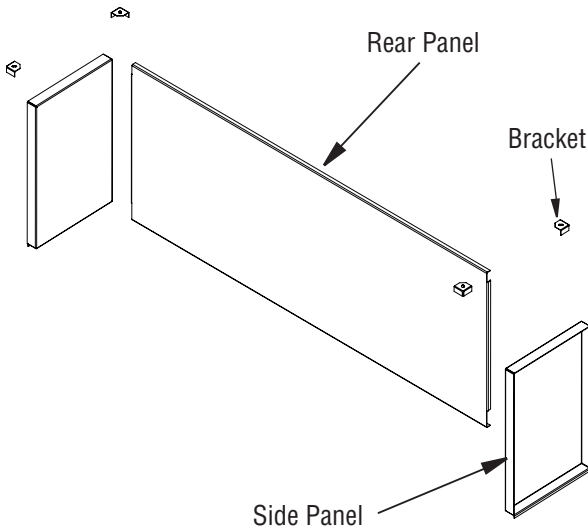

Figure 21 - Removing Rear Interior Wall for See-Thru Applications
1. Through firebox opening in the front of the fireplace, unscrew 4 corner brackets from the firebox top (See **Figure 21**).
4. Remove rear interior wall (see **Figure 21, Page 14**).